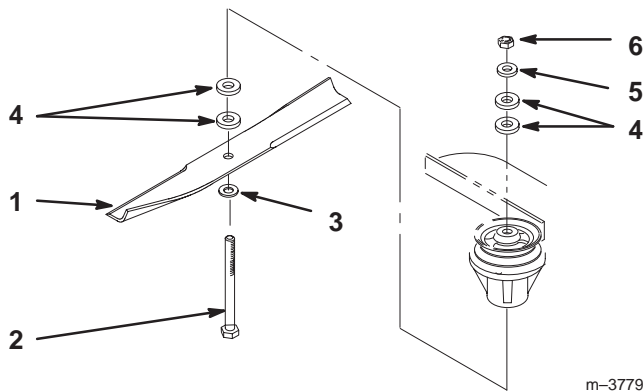

Figure 21
3. Hold blade bolt and remove nut. Slide bolt down, through spindle, and change spacers as required (Fig. 21).
4. Insert bolt, add extra spacer(s), and secure with thin washer and nut (Fig. 21).